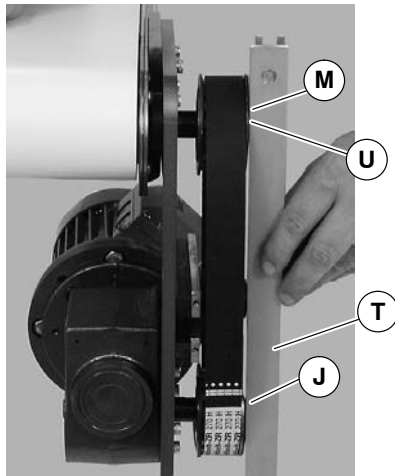

Figure 9
6. Wrap timing belt (P) around driven pulley (M) and drive pulley (J). Install driven pulley (M) onto conveyor shaft.
- Using a straight edge (T of Figure 9), align driven pulley (M) with drive pulley (J). Tighten driven pulley taper-lock screws (U).